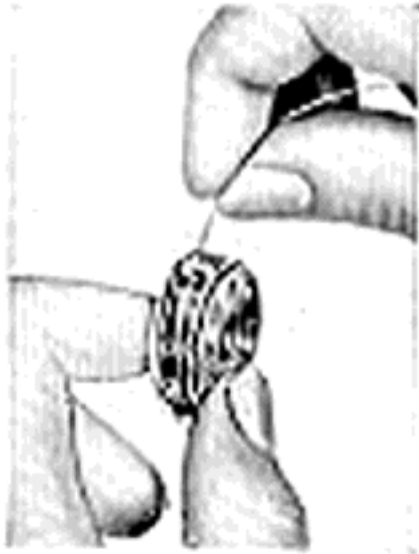
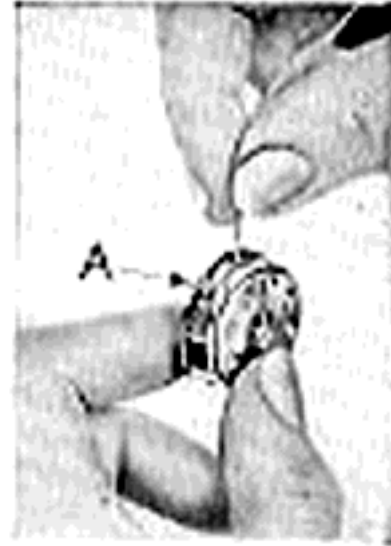

Fig. 11
Fig. 10
then pull the thread into the slot as shown in Fig.10, and back under the tension spring into the slot at the end of the tension spring as shown in Fig. 11.
tension, and the lower numbers less tension. The tension indicator (G) is marked with the signs + and - which indicate the direction to turn the thumb nut (B) for more or less tension. As all machines are correctly adjusted before leaving the factory, the under tension seldom requires to be altered, but if this becomes necessary tighten the screw (A, Fig 10) which is nearest the centre of the tension spring on the outside of the bobbin case for more tension, or loosen the screw slightly for less.